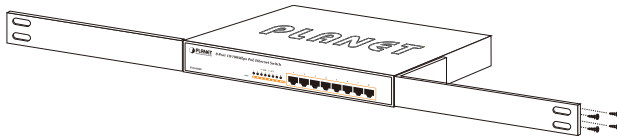

Figure 3-2: Attaching the Brackets to the Switch.
Step 2: Attach a rack-mount bracket to each side of the Switch with supplied screws attached to the package. Figure 3-2 shows how to attach brackets to one side of the Switch.